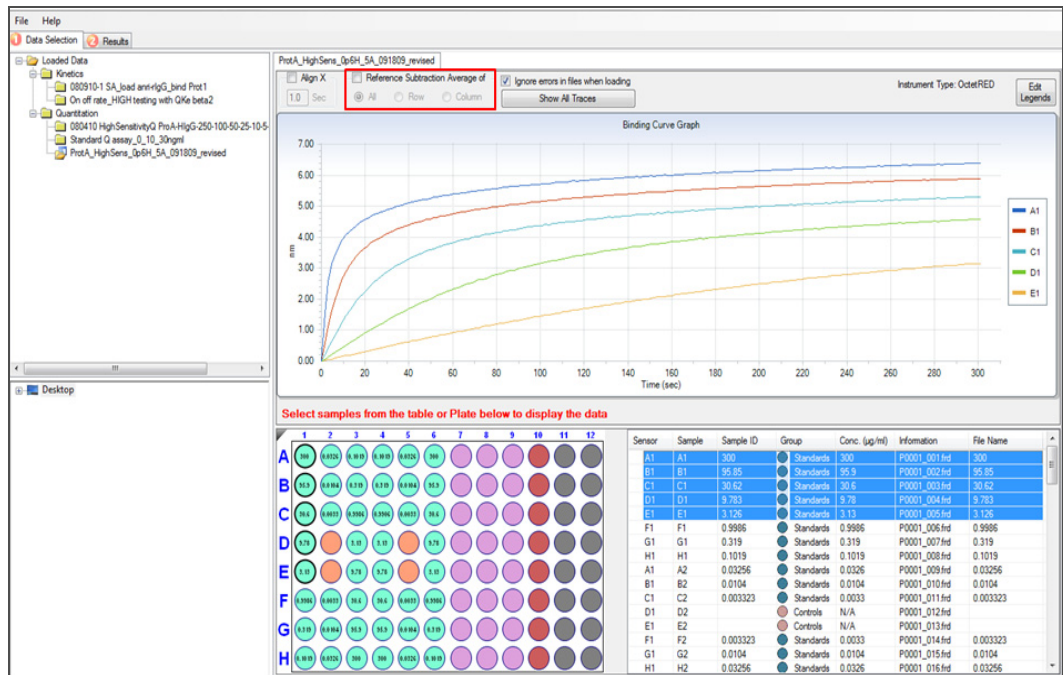

Figure 4-19: Reference Subtraction Average of Methods
1. If the experiment includes reference biosensors, click the **Reference Subtraction Average of** check box (Figure 4-19) and select to average the data by one of the following: